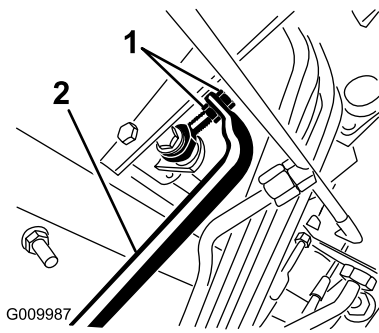

Figure 48
- Adjust jam nuts on pump rod end to move pump control tube forward to eliminate forward creep or rearward to eliminate rearward creep (Figure 48).